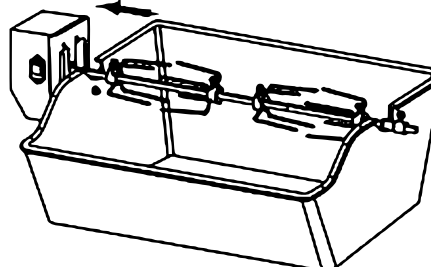

Figure 4: Assembly completed.
4. Assembly completed (**Fig. 4**).